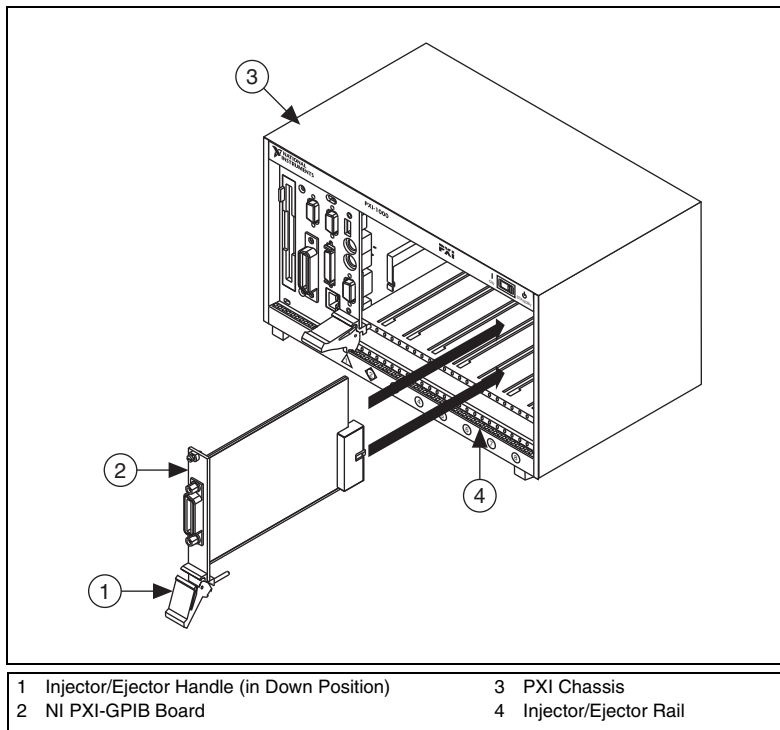

Figure 2. Installing the NI PXI-GPIB
7. Insert the NI PXI-GPIB into the selected slot. Use the injector/ejector handle to fully inject the device into place. Figure 2 shows how to install the NI PXI-GPIB into a PXI or CompactPCI chassis.